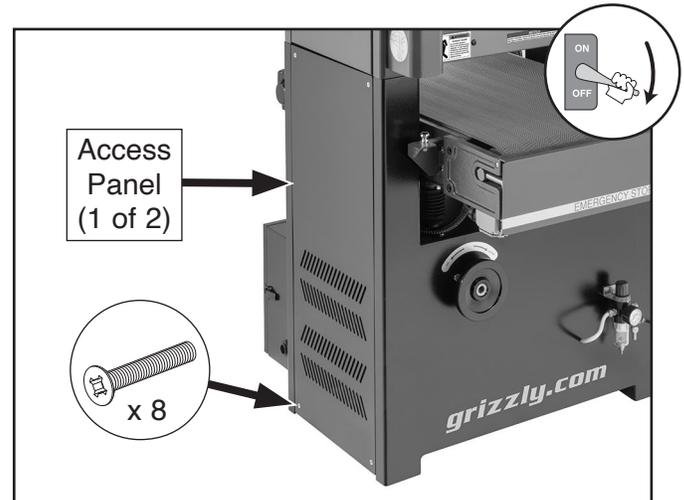

Figure 61. Location of access panels and screws.
2. Remove (8) screws shown in **Figure 61** to remove left and right access panels.